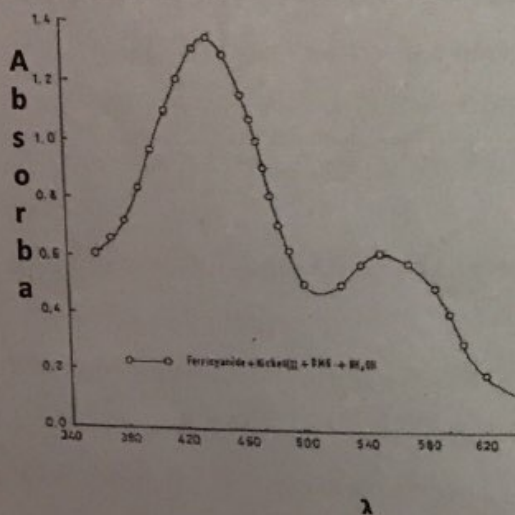

Figure 1: Absorption spectrum of oxidized Ni(II)-DMG complex showing  $\lambda_{\text{max}}$  at 440 nm
**Principle:** Dimethylglyoxime reacts with nickel ions and forms a pink coloured  $\text{Ni}(\text{dmg})_2$  complex in alkaline medium. Nickel forms a brown-red, water soluble oxidized nickel-dimethylglyoxime complex with potassium ferricyanide in alkaline medium as shown in the scheme below. The absorption spectrum of the oxidized complex shows absorption maximum at a wavelength of 440 nm (Figure 1). After drawing calibration graph the determination of nickel concentration in a given unknown sample can be done by colorimetry applying Beer-Lambert law.